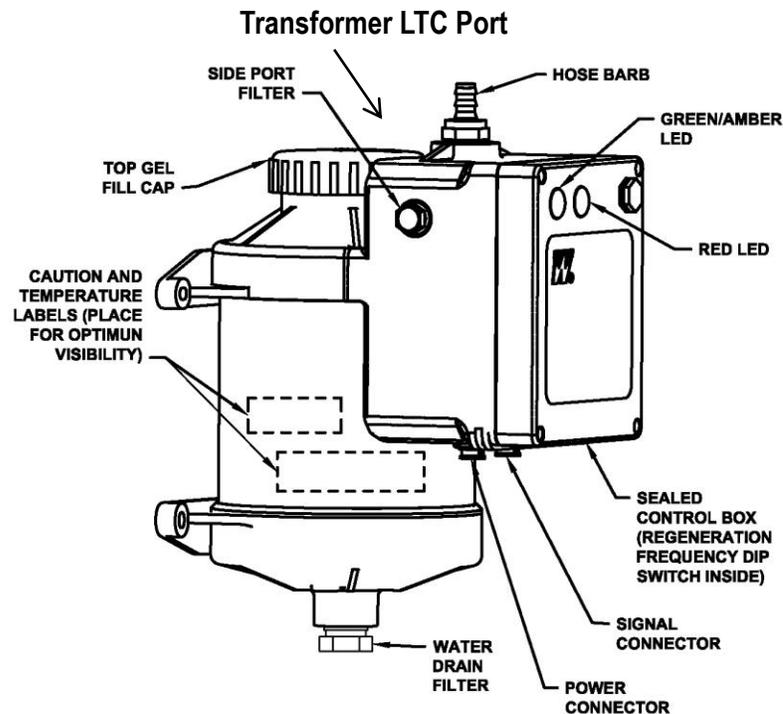

Figure 3 – ARDB2 Fittings and Label Installation
- 3) Install included hose barb securely (see Figure 3 on page 10). Use of thread sealant (if hose barb is not already pre-Teflon taped) is required to prevent water from flooding the humidity sensing chamber.
- 4) Install side port filters (use pipe sealant if filter is not pre-Teflon taped) and water drain filter (see Figure 3 above).
- 2) Plug the three wire harness into the three wire receptacle on the left side of the breather as shown in Figure 3 on page 10.
- 5) Plug the five wire harness into the five pin receptacle on the right side of the breather as shown in Figure 3 on page 10.